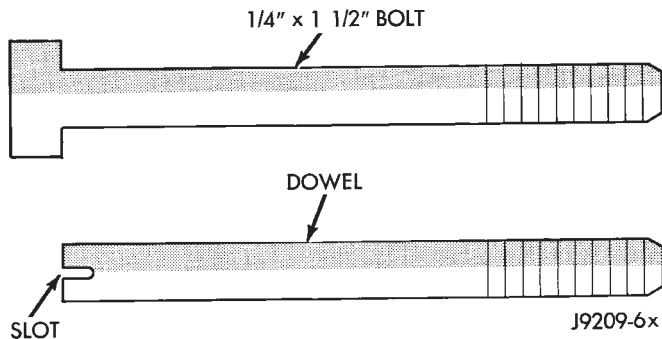

Fig. 53 Fabrication of Alignment Dowels
(2) Fabricate 4 alignment dowels from 1 1/2 x 1/4 inch bolts. Cut the head off the bolts and cut a slot into the top of the dowel. This will allow easier installation and removal with a screwdriver (Fig. 53).